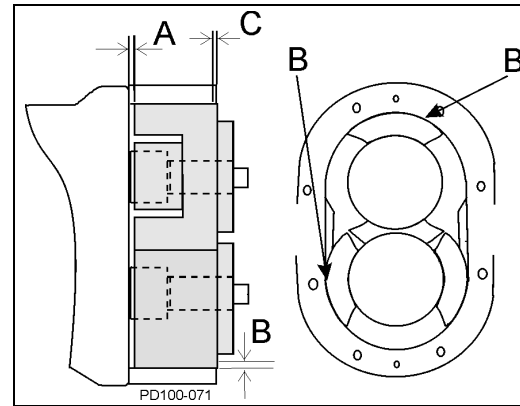

Figure 64 - Clearance Measurements
1. Measure rotor backface clearance (Figure 64, item A) through port or from front. **Backface clearance for both rotors must be equal to avoid crossover interference.**